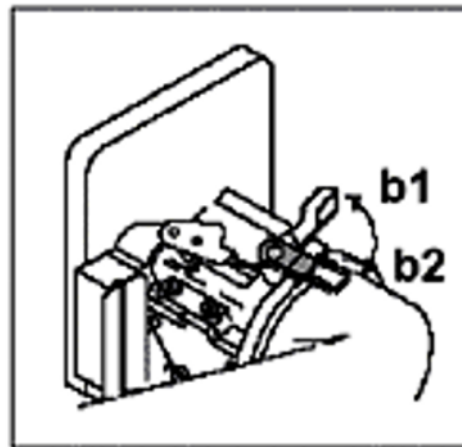

Fig.1
2. As Fig. 1, if the engine is cold, close choke on the carburetor. Occasionally, warm engines will need to be choked. Move throttles control to 1/4 to 1/2 of the full position (c3). Pull the starter rope until the engine starts, or attempts to start.
If the throttle control wire should break, keep pressing the stop button (d) until the engine stops completely (Fig. 1).